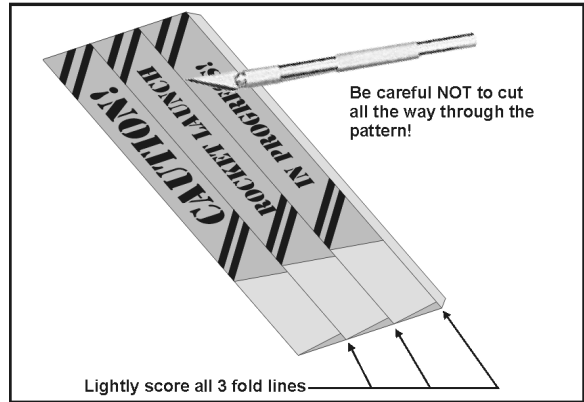

Figure 1
1. Using a straight edge and razor knife, cut out the **Body Tube** from the provided pattern. Referring to **Figure 1**, **CAREFULLY** score all 3 fold lines as indicated. Do **NOT** cut all the way through the pattern. Just enough to aid in creasing the body at these lines.